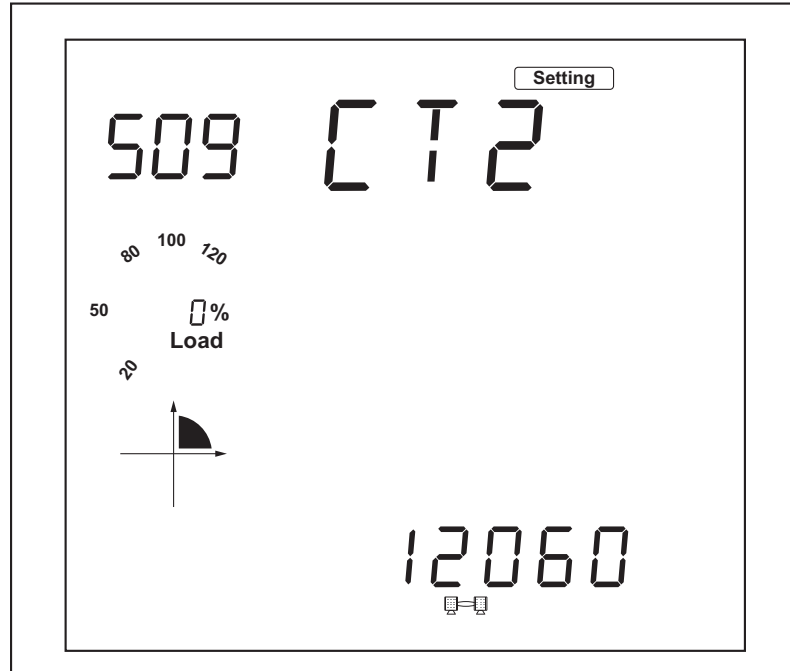

Figure 13: S09: CT2 screen
13. Press **P** to get to screen S09: CT2 (Figure 13 on page 13).